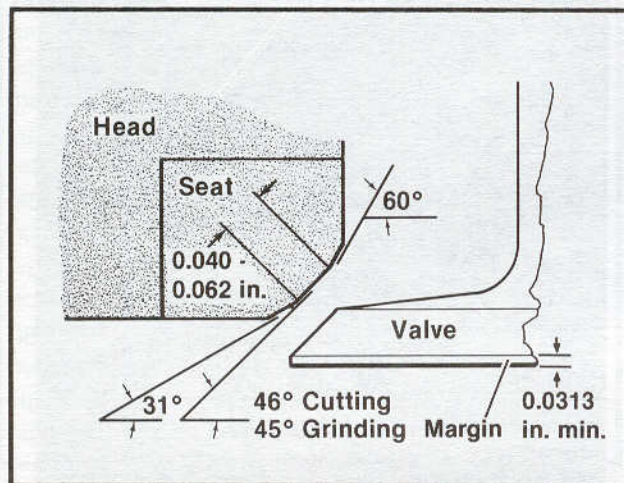

Figure 3-25. Valve Seat Angles
See Figure 3-25. The valve seats may be refinished with cutters or grinders. Cut seats to 46° , grind seats to 45° . Valve seat tools and fixtures are available commercially. Seat each valve in same port from which it was disassembled.
2. See Figure 3-25. Use bluing or magic marker and check the contact pattern on the valve face. It should be 0.040 - 0.062 in. wide and $2/3$ the way towards the outside edge of the face.